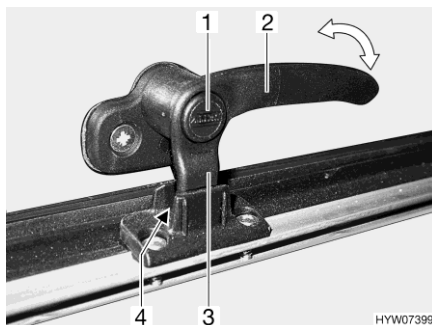
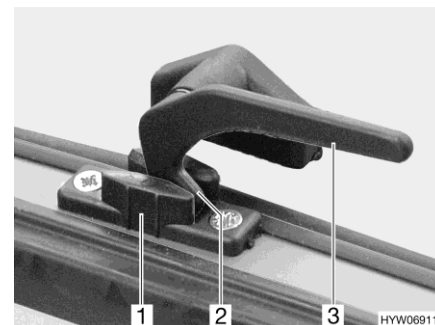

Fig. 90 Catch lever with safety knob in "continuous ventilation" position
Fig. 91 Catch lever in "continuous ventilation" position
- "Continuous ventilation" (Fig. 90 and Fig. 91)
- Press and hold the security button (Fig. 90,1), if present.
- Turn the catch lever (Fig. 90,2 or Fig. 91,3) a quarter turn towards the centre of the window.
- Return the catch lever to its initial position. Move the locking catch (Fig. 90,3 or Fig. 91,2) on the catch lever into the recess of the window catch (Fig. 90,4 or Fig. 91,1).